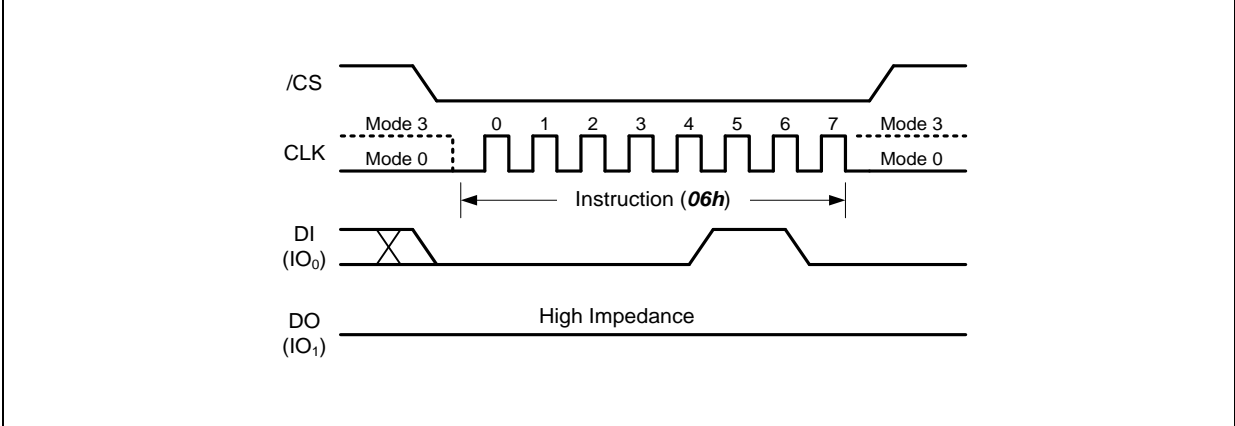

Figure 16. Write Enable Instruction
The Write Enable instruction (Figure 16) sets the Write Enable Latch (WEL) bit in the Status Register to a 1. The WEL bit must be set prior to every Load Program Data (02h/84h/32h/34h), Program execute and Block Erase instruction. The Write Enable instruction is entered by driving /CS low, shifting the instruction code "06h" into the Data Input (DI) pin on the rising edge of CLK, and then driving /CS high.